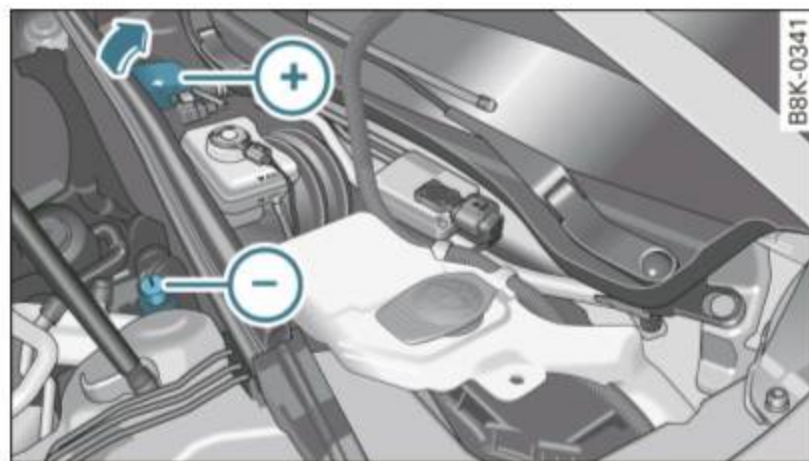

Fig. 208 Engine compartment: Connectors for charger and jumper cables
- Open the red cover on the positive pole ⇒ *fig. 208*.